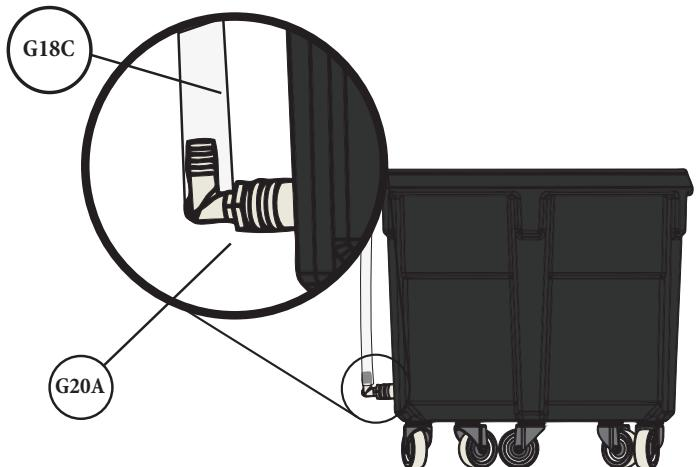

FIG. 30
- 30** Attach the long end of the Tube Assembly (G18C) onto the Nylon Elbow (G20A) installed on the lower section of the Drum (K). Push the Hose onto the fitting so that all barbs are covered [FIG. 30].